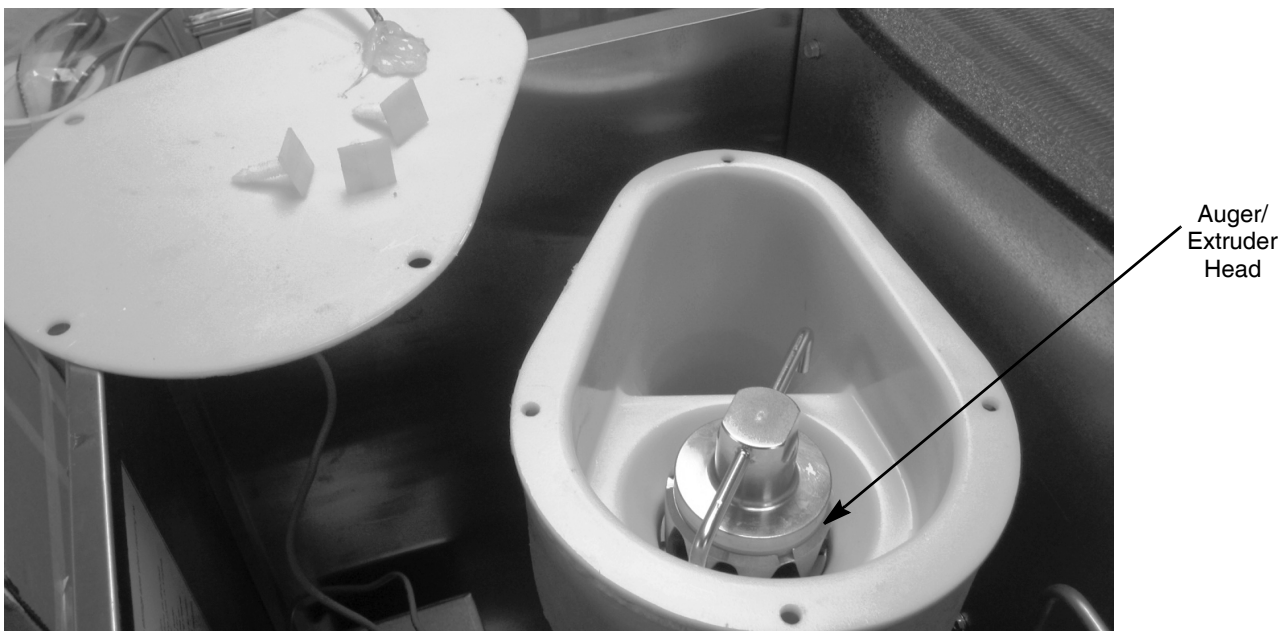

Figure 10. .
1. Install the extruder head on top of the evaporator, as shown in Figure 10.